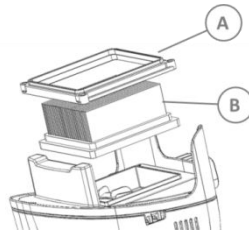

Figure 9
- e. See figure 9. Remove the filter frame (A) and the filter (B).